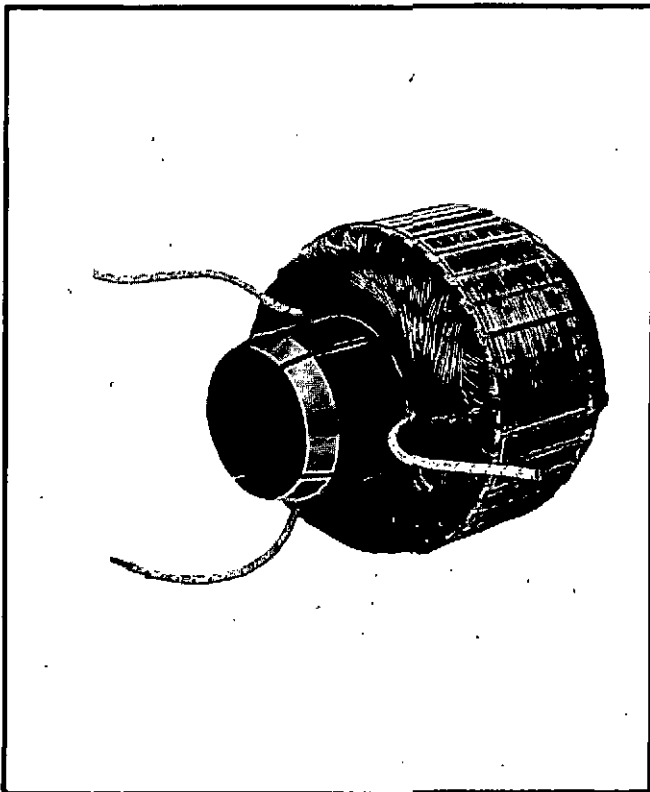
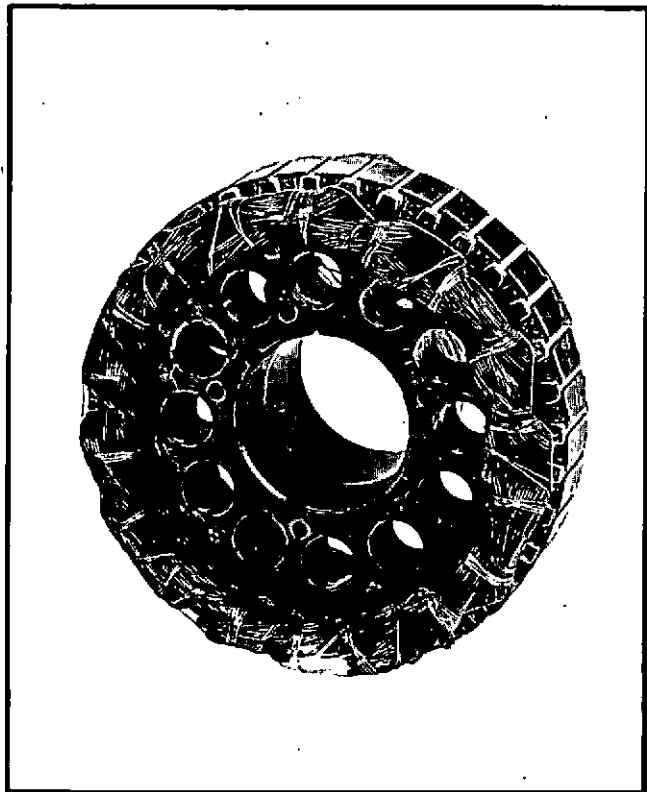

FIGURE 10
FIGURE 11
Brushless generators use two types of exciter armatures. Figure 10 shows the four or six-pole type and Figure 11 illustrates the twelve-pole type. Both types are connected three-phase, three wire, wye, and are constructed of conventional coil groups on a stack-up of steel laminations which are keyed or pinned to the generator shaft. In both designs, the output of the armature is rectified by the adjacent rotating rectifier bridge assembly (24).